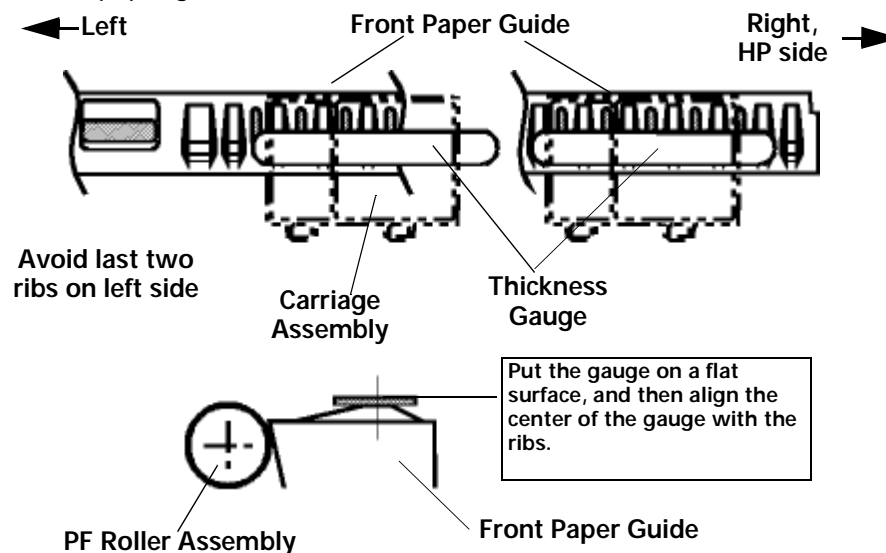

Figure 5-1. PG Adjustment - Use of Thickness Gauge
3. Move the carriage to the center and set the thickness gauge (1.14mm thick) on the flat face of the specified rib of the front paper guide as you see in the figure5-1. Perform the PG adjustment from the right (HP side) front paper guide.